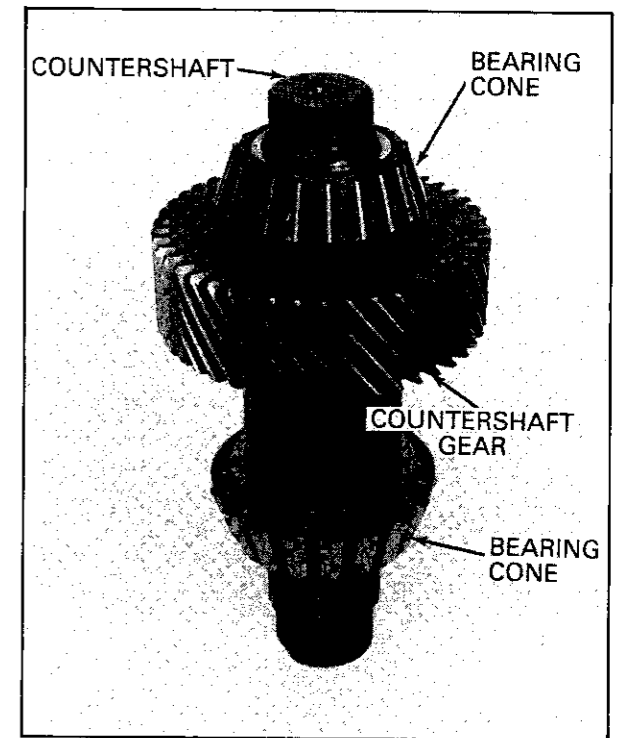

FIG. 33 COUNTERSHAFT FRONT BEARING CONE INSTALLATION
32. Press the countershaft front bearing cone over the countershaft and seat against the shoulder of the countershaft (Fig. 33).